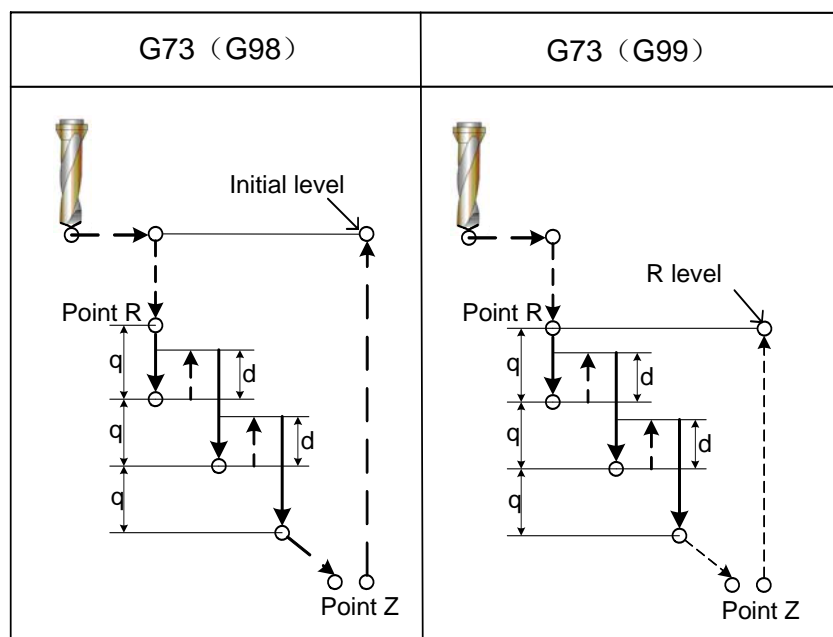

Fig. 4-4-7-1
**Function:** This cycle is especially defined for high-speed peck drilling, it performs intermittent cutting feed to the bottom of a hole while removing chips from the hole by rapid retraction. The operation illustration is shown as Fig. 4-4-7-1.
**Q:** If parameter Q is specified, the intermittent feed is performed as shown in above figure. And the retraction is performed by the retraction value d (Fig.4-4-7-1) set in number parameter P270. The rapid tool retraction for a distance d is performed in each intermittent feeding.